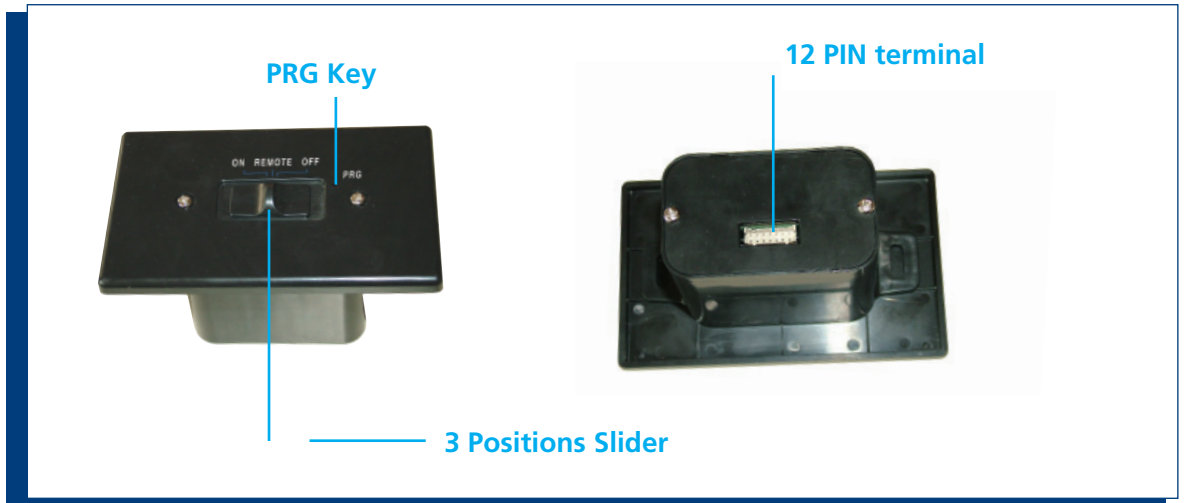

Fig. 3: Proflame Receiver body.
The Proflame Receiver (Fig. 3) connects directly to the gas valve stepper motor, and to the Fan Control Module with a wiring harness. The receiver is powered by 4 AA type batteries. The receiver accepts commands via radio frequency from the Transmitter to operate the appliance in accordance with the particular Proflame system configuration. The Receiver slider switch can be set to one of these three positions: ON (Manual Override), Remote (Remote control) or OFF.
Install the 4 AA batteries into the receiver battery bay. Note the polarity of the battery and insert into the battery bay as indicated on the Battery cover (+/-). Place the 3 position slider switch in the "REMOTE" position. (fig. 3) Insert the end of the paper clip or similar object into the hole marked "PRG" on the Receiver front cover (fig 3). The Receiver will "beep" three (3) times to indicate that it is ready to synchronize with a Transmitter. Install the 3 AAA type batteries in the Transmitter battery bay, located on the base of the Transmitter. With the batteries already installed in the Transmitter, push the ON button. The Receiver will "beep" four times to indicate the Transmitter's command is accepted.